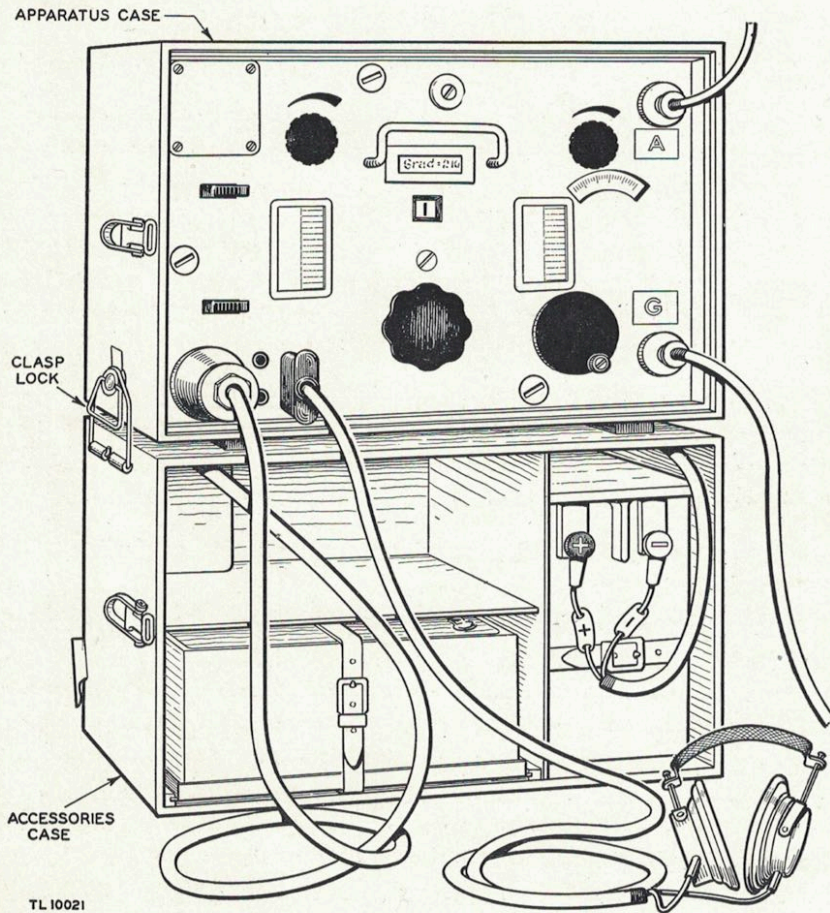

Figure 5. German radio set Torn. E. b., set up for operation.
**a. Assembly.** Place the apparatus case on top of the accessories case, as shown in figure 5. These sections are secured together by